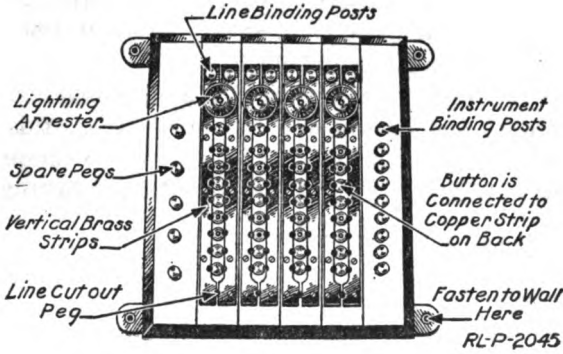
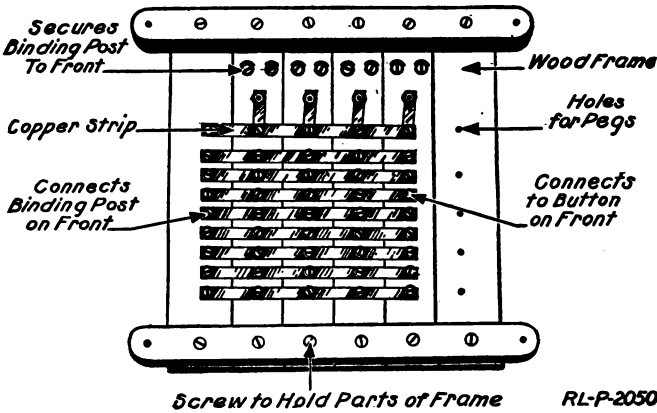
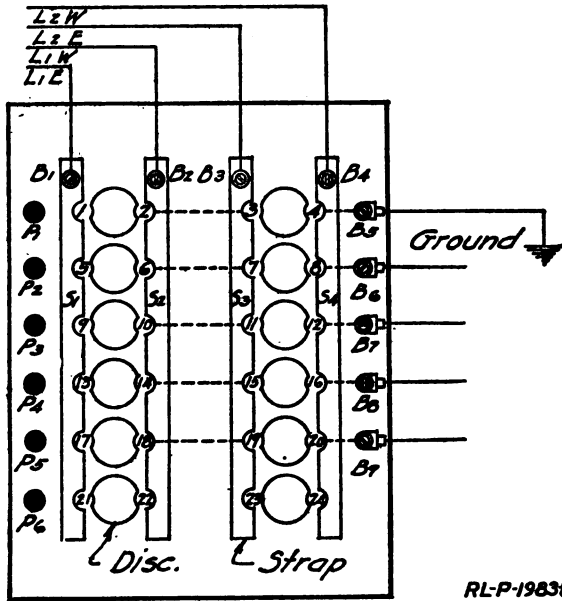

Fig. 27.—Telegraph switchboard (front view)
Fig. 28.—Telegraph switchboard (rear view)
Fig. 29.—Diagram of connections to telegraph switchboard
The peg switchboard, on account of its simplicity and ruggedness, is used in small offices. (See Fig. 27, a front view, and Fig. 28, a rear view.)
The wires leading from the instruments are connected to binding posts at the side of the board. (See Fig. 29.) Each of these binding posts is drilled at the base to receive a machine screw. These screws pass through the board from the back to the front. The tip of each screw makes electrical contact with a binding post, while the head, at the back of the board, makes contact with a brass or copper strap. (Fig. 28.)
The top horizontal row of buttons is usually connected to a ground wire, as shown in Fig. 29. The insertion of a peg between a vertical strap and one of these buttons connects that vertical strap to ground.
1. Examine the construction of the peg switchboard, noting the arrangement of vertical and horizontal straps terminating in binding posts. (Fig. 27.)